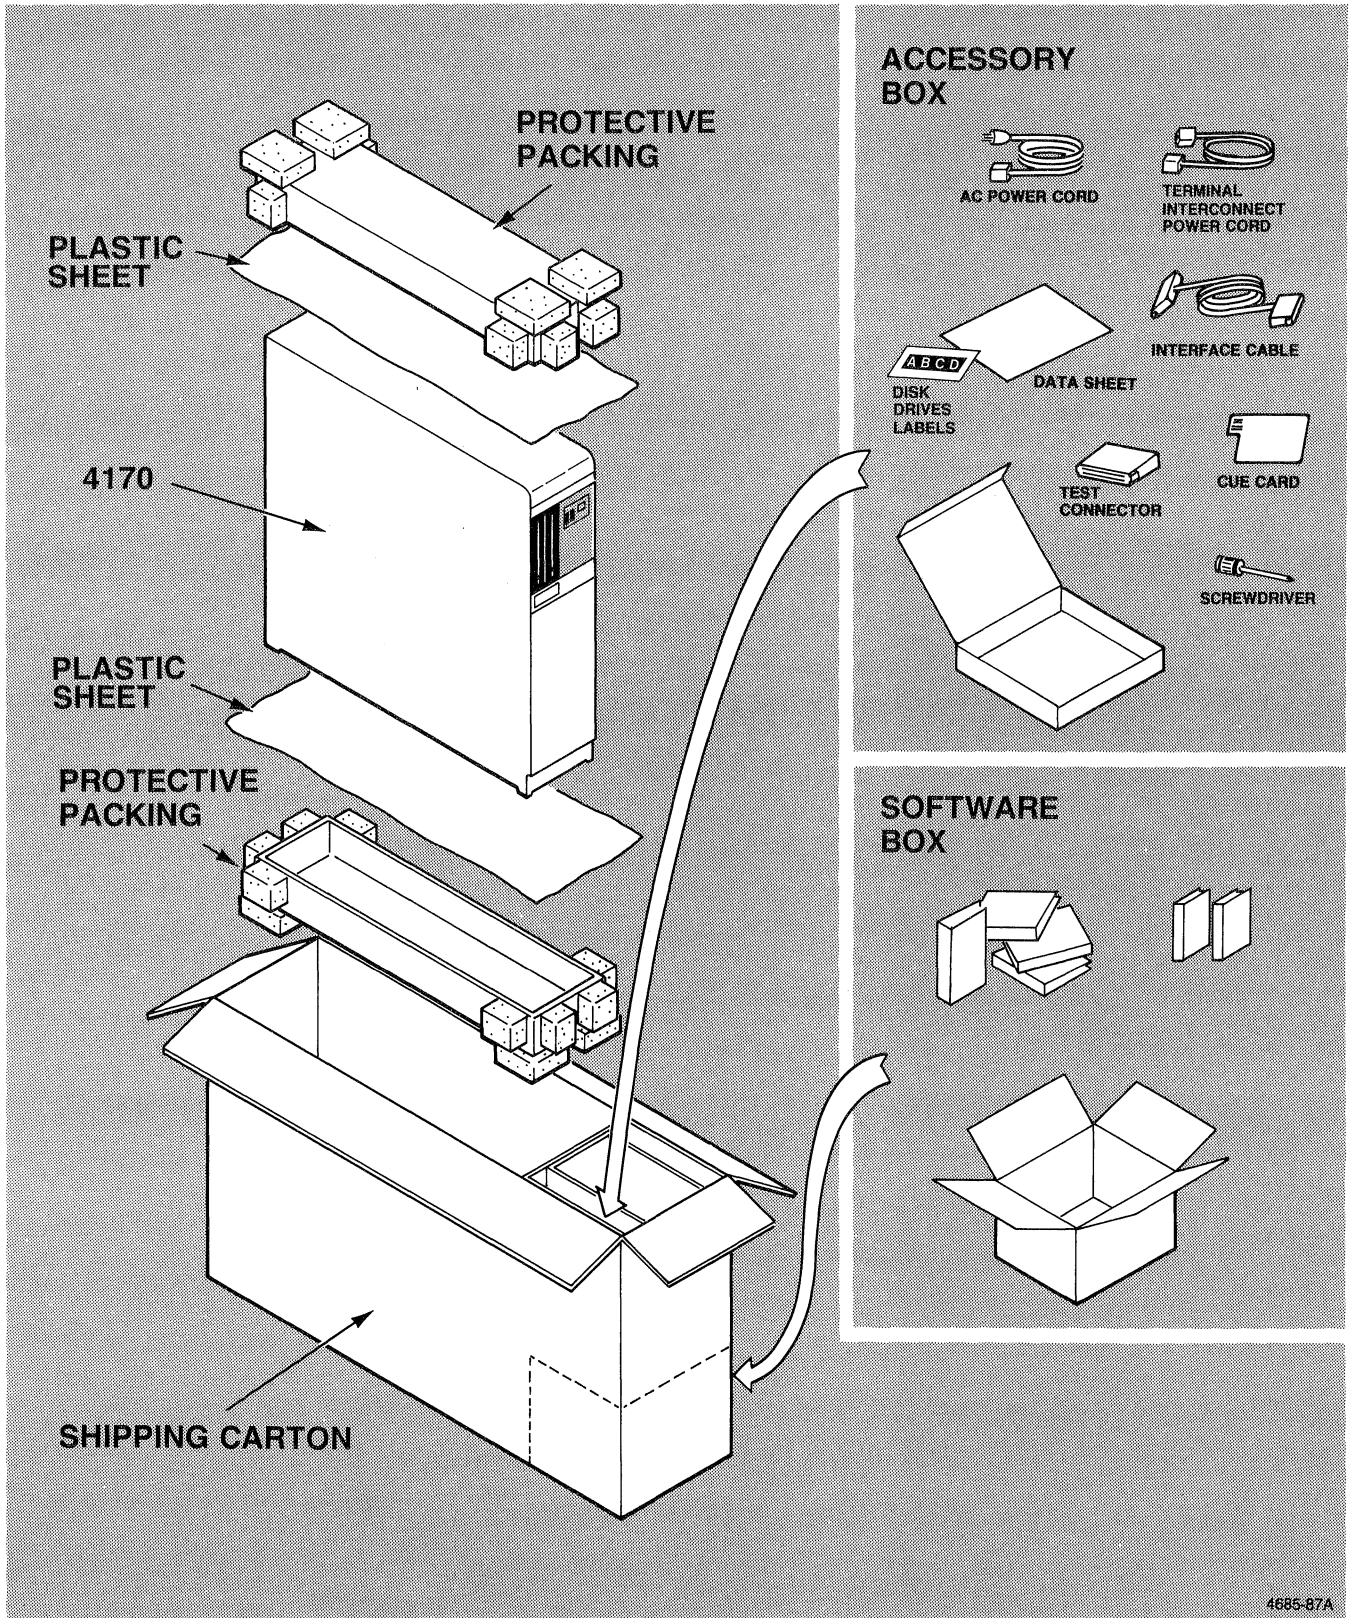

Figure 4-7. Repacking.
8. Place the 4170 in the shipping cartons as shown in Figure 4-7.